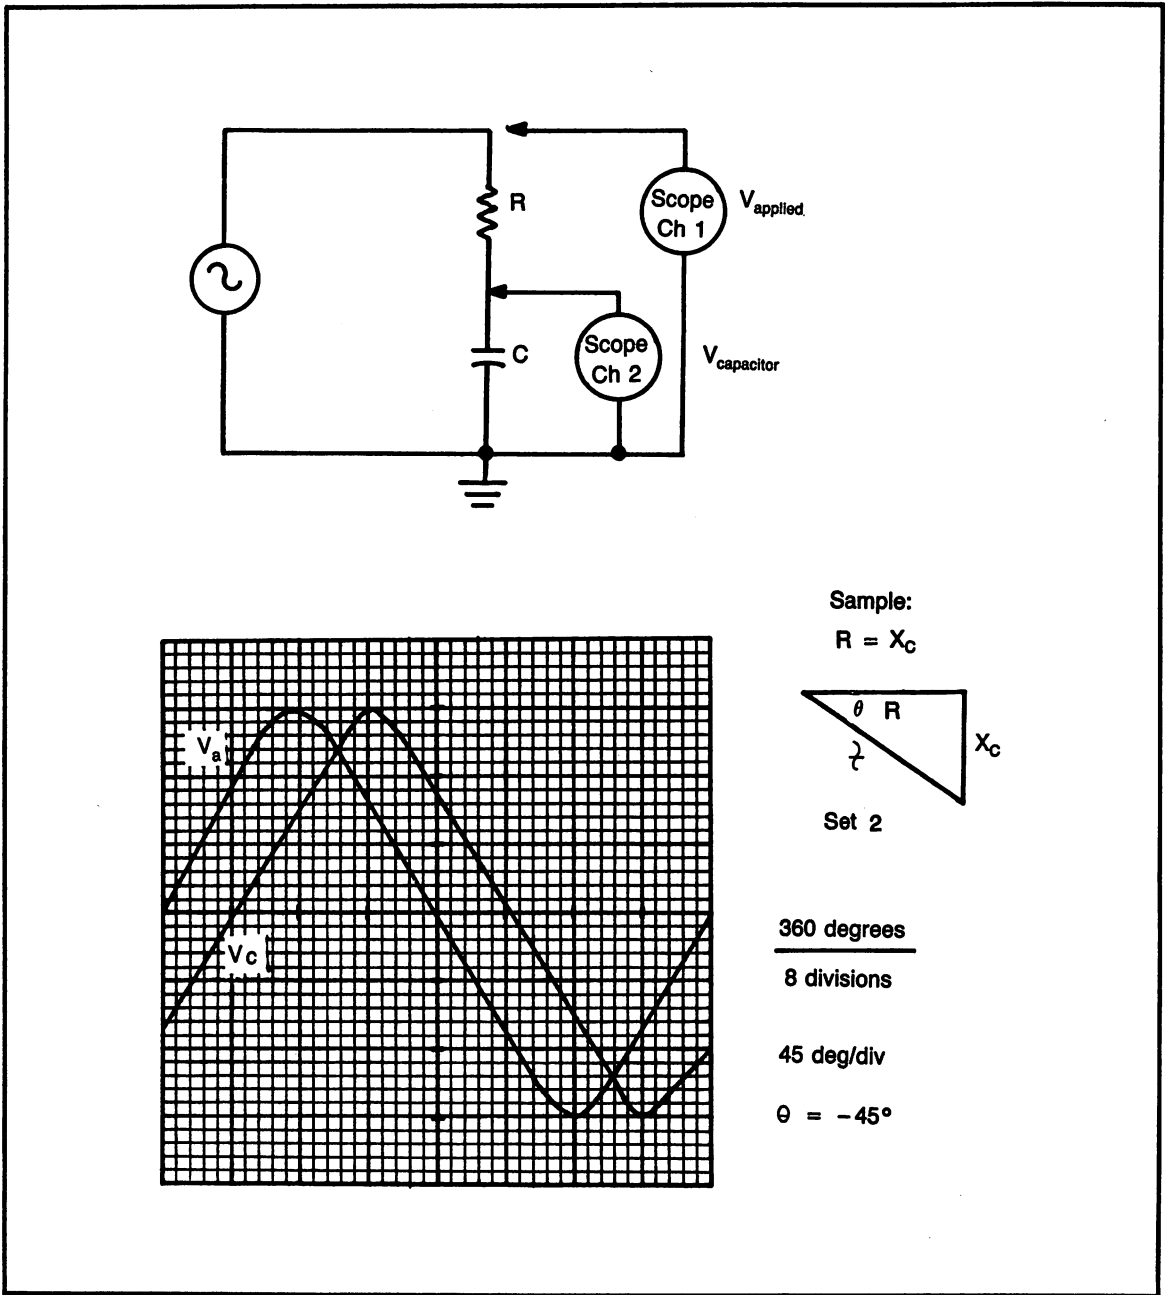

Fig. 14-29. Schematic and scope drawing for hands-on exercise measuring phase angle.
Examine the schematic diagram and sample drawing of an oscilloscope display, in Fig. 14-29. Note the relationship of the two sine waves in the drawing.
Step 4. Connect the oscilloscope as shown in Fig. 14-29; channel 1 on the applied voltage and